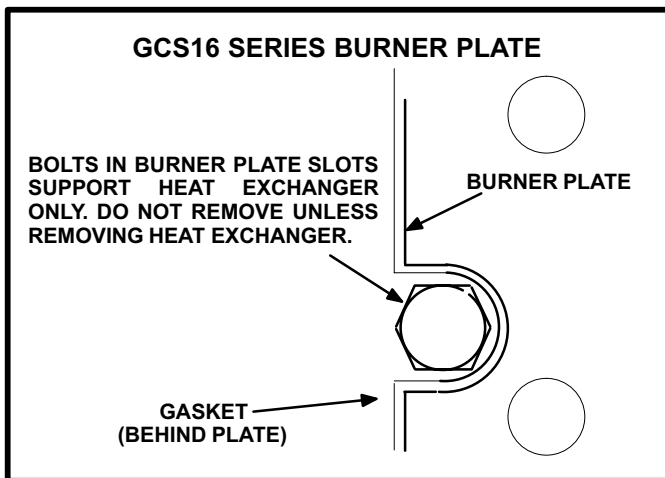

FIGURE 32
When servicing the burner, do not remove the bolts behind slots in the burner plate (see figure 32).
- 4-Remove gas valve/manifold assembly by removing bolts securing assembly to vestibule. Manifold, valve and bracket will be removed as a unit. *NOTE - See figure 32 for CAUTION concerning burner plate removal.* First detach the gas manifold bracket. Next, remove the four screws securing the gas burner manifold to the burner plate. Take care not to damage ceramic cone in combustion chamber. If cone is damaged, it must be replaced.
NOTE - See figure 32 regarding slots in burner plate.
WARNING - WHEN SERVICING THE BURNER, DO NOT REMOVE THE BOLTS IN THE BURNER PLATE SLOTS (SEE FIGURE 32). THESE BOLTS SUPPORT THE HEAT EXCHANGER CASTING. REMOVAL OF THESE BOLTS WILL ALLOW THE HEAT EXCHANGER TO DROP INSIDE THE CABINET AND COULD RESULT IN HEAT EXCHANGER DAMAGE.
5-Remove bolts supporting heat exchanger in burner plate (see figure 32).